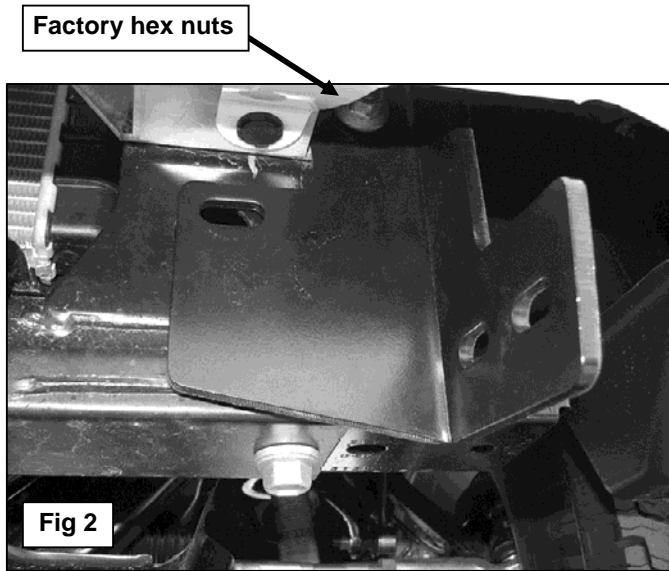

Fig 2
2. Start installation at the driver side, front of the vehicle and remove the (2) factory bumper mount hex nuts located toward the outside of the bumper mount and frame channel, **(Figures 1 & 7)**. **NOTE:** It may be necessary to remove the factory tow hook from the passenger side. Select the driver side frame mounting bracket and hang it from the (2) threaded studs. Secure the Bracket to the (2) threaded studs with the (2) factory hex nuts, **(Figures 2 & 7)**. Do not tighten hardware at this time.